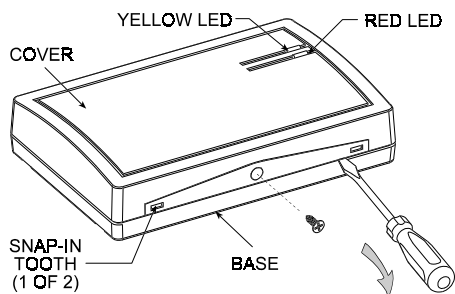

Figure 4. Removing the Top Cover
- A. Remove the screw that secures the cover to the base and remove the cover as shown in Figure 4.